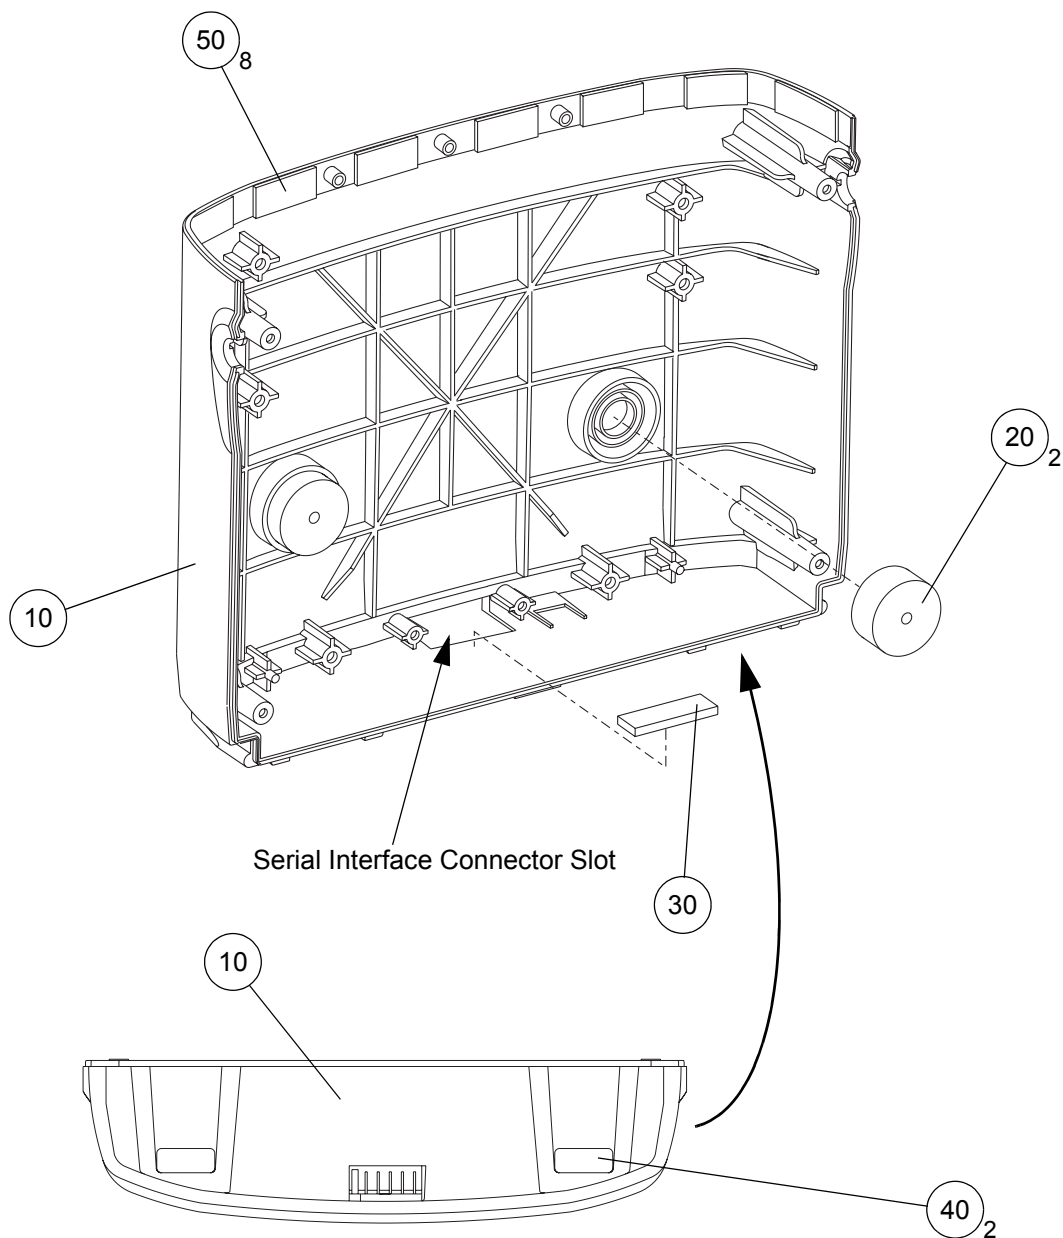

Figure 31 - Replacing the Front Case
- 26.3 Lay the new front case (Fig 31, Item 10) down with the inside surface pointing upwards.
- 26.4.1 Two compressor support foams (Fig 31, Item 20).
- 26.4.2 Connector sealing strip (Fig 31, Item 30), adjacent to the serial interface connector slot.
- 26.4.3 Two rubber feet (Fig 31, Item 40).
- 26.4.4 8 double-sided sticky pads (Fig 31, Item 50):
- Note:** *The 8 sticky pads should be evenly spaced around the top inside edge, in the approximate positions shown in Figure 31.*